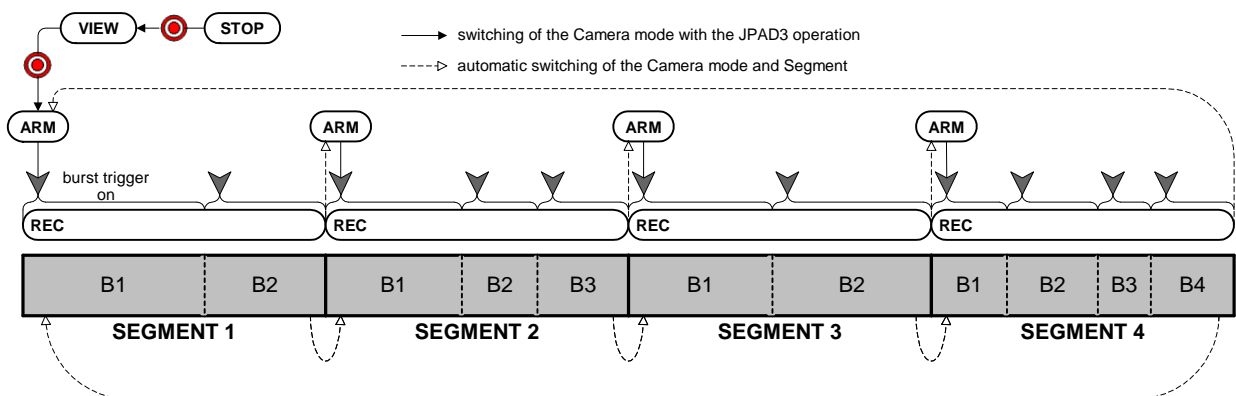

Figure3-37 Burst Recording (BURST(L), Number of Segments : 4)
Figure 3-37 shows how to switch modes with the J-PAD3 during BURST(L) recording (top of the figure) and saving in the memory (bottom of the figure). BURST(L) refers to burst recording in LOOP mode. B1, B2, B3 and B4 refer to memory segmented blocks that correspond to the burst trigger signals.